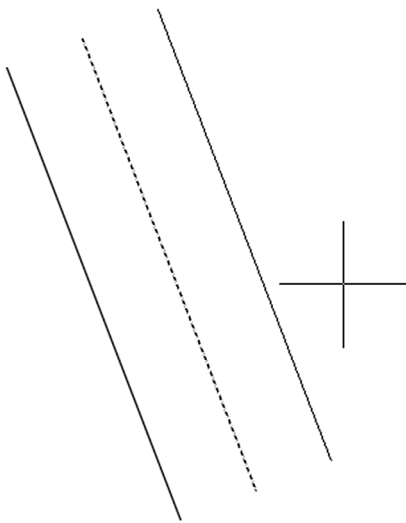

FIGURE 1.28 Offset command in progress.
Step 4. Pick a *direction* for the line to go, which is to one of the two sides of the original line. It does not matter exactly how far away from the original line you click, as the distance has already been specified. You can keep doing this over and over by selecting the new line then the direction (see Fig. 1.28). If you want to change the offset distance, you must repeat Steps 1 and 2.